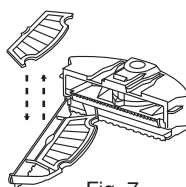

Fig. 7
- 5(b). Take out the HEPA dust filter by inserting your thumb in the space between the filter and bracket and pulling the HEPA dust filter up out of the bracket. Clean the dustbin in water (Refer Fig. 7).